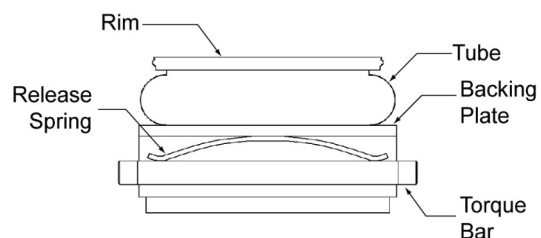

Figure 15
- 4.7.5 Place a torque bar in each mating hole in the side plate, slide a friction shoe assembly onto each torque bar and carefully tap a release spring (51VC1600, 60VC1600 and 66VC1600 elements have two release springs in each cavity) into place. Make sure the spring is positioned on the side of the torque bar opposite the friction lining. Also, the spring must contact the torque bar at two points, not one. See Figure 15 .